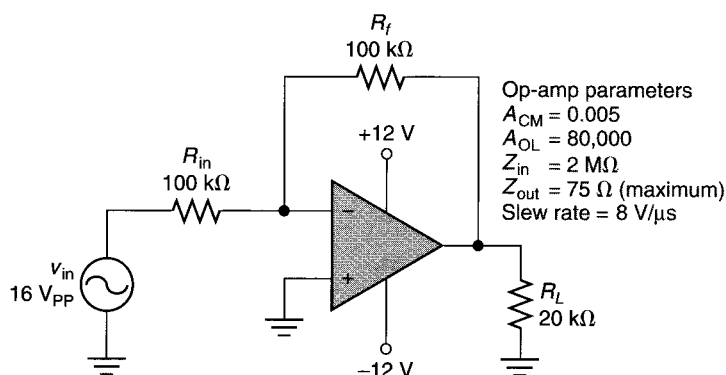

FIGURE 15.59
17. Perform a complete analysis of the amplifier in Figure 15.59.